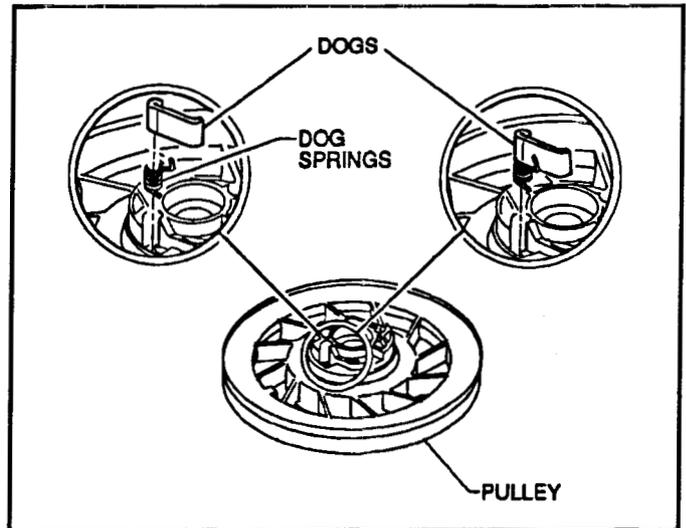

Figure 26
4. Remove the two ratchet dogs and springs. Take note of the positioning of the springs for correct installation. See Figure 26.